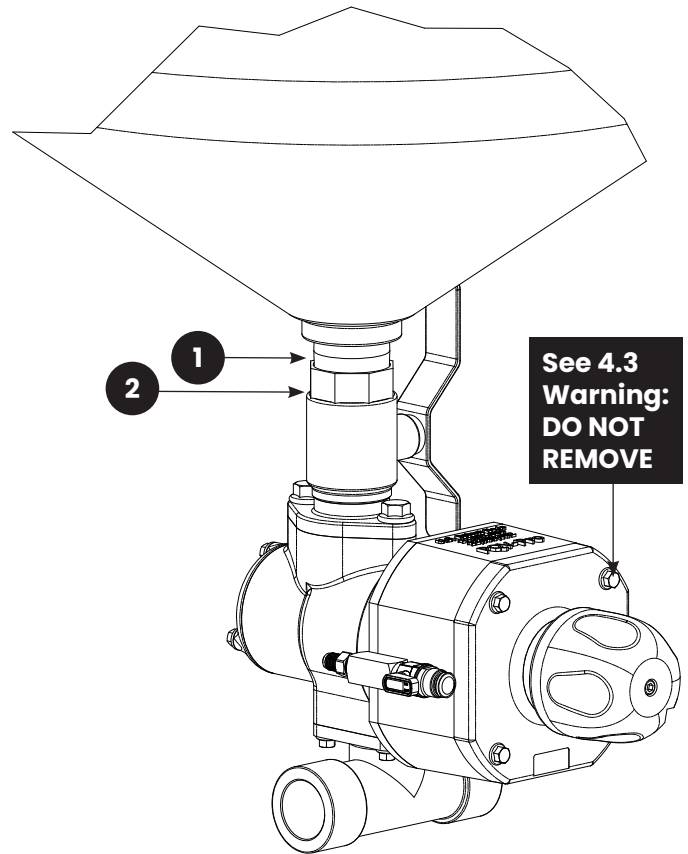

FIGURE 3: (1) 1-1/2" Installation Nipple; (2) Use wrench to tighten only on wrench flats
2.2 Install PQV-Pro Valve onto the Blast Machine — Figure 3
Tighten and align the valve by using a wrench on the flanged inlet nipple or ball valve only, as shown in **Figure 3**. Avoid applying pressure on the valve body or outlet pipe (lower flange) to tighten or align the valve. Doing so could damage the upper or lower flanges.
2.2.1 | Apply thread sealant to both ends of the 1-1/2" NPT installation nipple and use the nipple to attach the upper flange to the machine as, shown in **Figure 3**.
2.2.2 | Use a pipe wrench or strap wrench to grip the valve body or body of the inlet nipple to tighten it onto the blast machine. Do not use a wrench on or below the flanges, as noted in **Figure 3**. Doing so could damage the flanges.